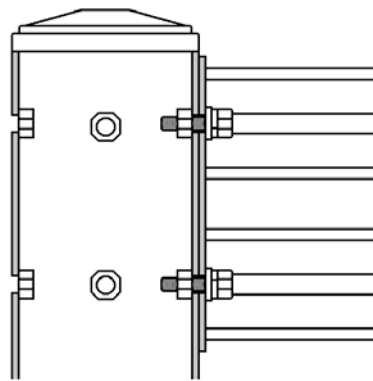
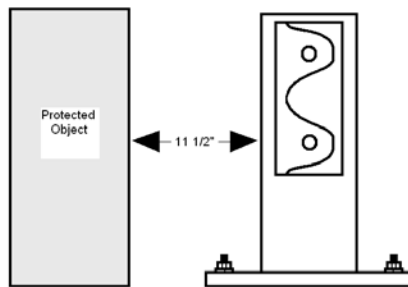

Figure 1 – Cut-Away View
Figure 2 – Rail Placement
5. Using the provided hardware, bolt the rails into place on the columns as seen in Figure 1. The front of the rail with the Handle-It logo should face away from the protected object as seen in Figure 2. **Please Note:** When installing Lift Out Adapter option, the included lock washers are not required.